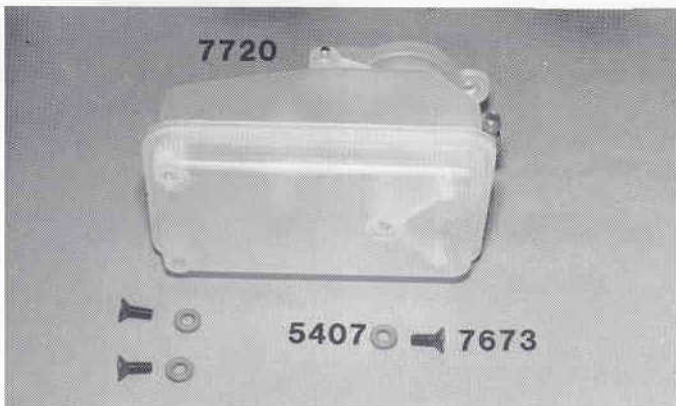

Fig. 220
□ **Figs. 220, 221 & 222** Open up the Fuel Tank bag and remove the #7720 fuel tank, three #5407 red O-rings and three #7673 4-40 x 5/16" FHSScrews. We need to temporarily mount the fuel tank in the chassis so we can check the fit and alignment of the radio receiver. Find the tank's three matching holes on the chassis and push the screws through from the bottom and place an O-ring on each. Then install the tank onto the screws and tighten the screws just enough to hold the tank in place; do not overtighten! Now take your receiver and place it on the antenna/receiver mount to test the fit. There should be a small amount of space all around the receiver, nothing touching it. Then remove the receiver. Reinstall the receiver, using the servo tape on top of the antenna/receiver mount, keeping the same spacing you had during the trial fit, and press down firmly. **Note:** the fuel tank was removed in fig. 221 for clarity.